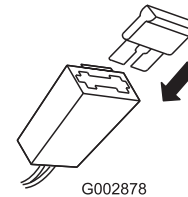

Figure 41
2. Replace the fuse in the fuse holder (Figure 41).